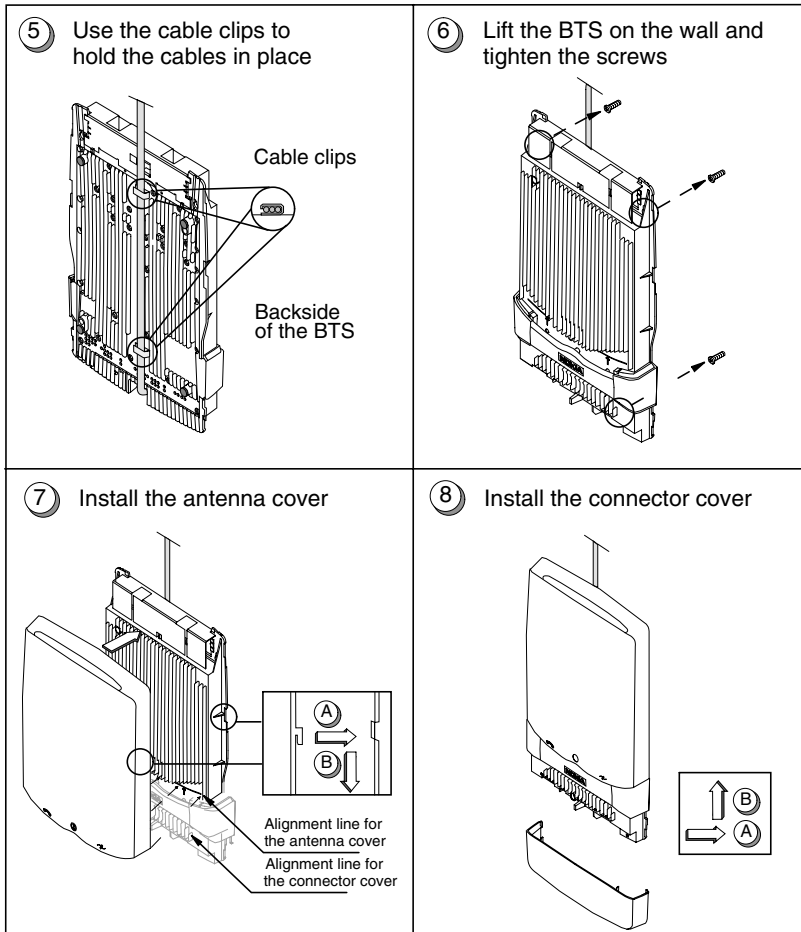

Figure 13. Installing the BTS (continued from Figure 12)
5. If you are going to route the cables upwards, use the cable clips to hold the cables in place on the backside of the BTS. See 5 of Figure 13. If you are routing the cables downwards, proceed to step 6.
6. Lift the BTS on the wall. Tighten the upper BTS fixing screws. Before tightening the lower screw, you can still adjust the horizontal straightness of the BTS. Tighten the lower BTS fixing screw. See 6 of Figure 13.
7. Install the antenna cover. First, put the lower edge of the cover on the alignment line of the BTS. Press the cover down. See 7 of Figure 13.
8. Install the connector cover. First, put the upper edge of the cover on the alignment line of the BTS. Push the cover up. See 8 of Figure 13.